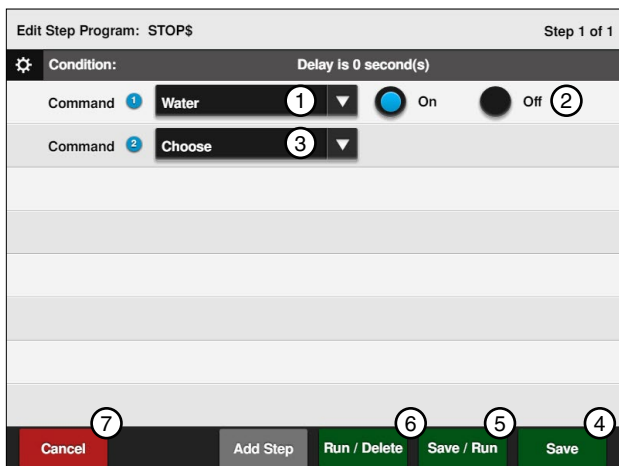

Figure 134-2 1. Water Command
3. Select the **Choose Command** drop-down menu and choose a different command. Refer to Figure 134-2.